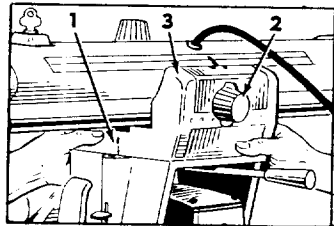

Figure 24
To test for looseness in the carriage, firmly grasp the carriage (Item 1, figure 24) at the level of the ball races and apply a firm rocking motion.
3. Remove carriage lock knob assembly (Item 2, figure 24) and carriage cover (Item 3, figure 24).